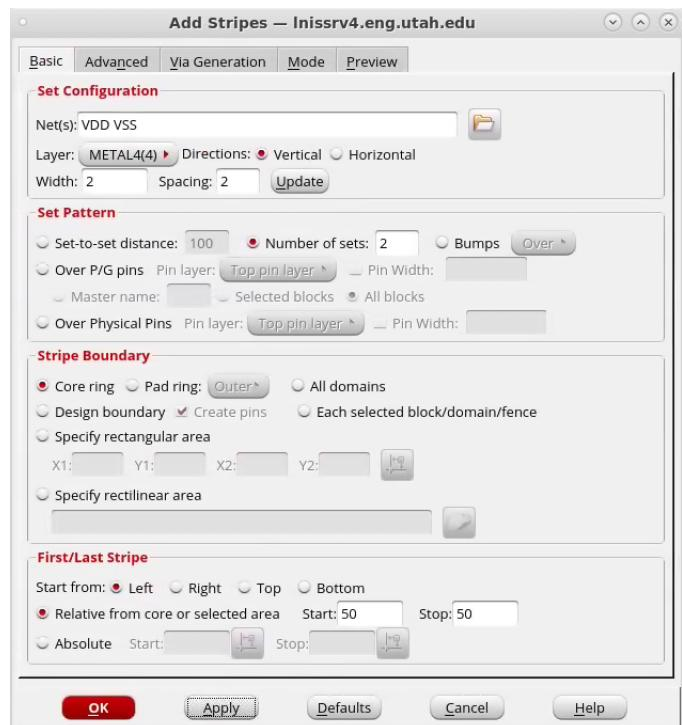

Figure 14: Adding Power Stripes.
2. Define the settings as in Fig. 14. It will create 2 pairs of *VDD* and *VSS* power stripes in metal4, starting and ending 50 μm of the left and right sides.